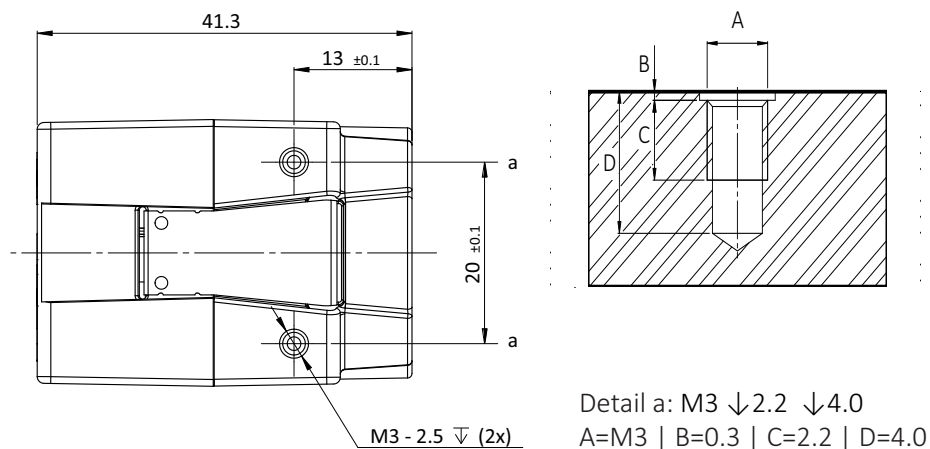

Figure 41: Mounting threads bottom and top (a)
1. As shown in Figure 41, mount the camera to the base using suitable M3 screws for mounting thread a: At 0.51 Nm maximum torque for a thread engagement (C) of 2.2 mm between screws and mounting threads.